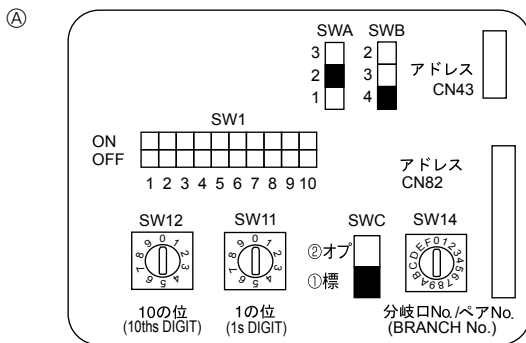

Fig. 4-4
4.6. Switch setting for high ceiling or at the time of changing the number of air outlets (Fig. 4-4)
④	4 direction	2.7 m	3.2 m	4.5 m
③	3 direction	3.0 m	3.6 m	4.5 m
②	2 direction	3.3 m	4.0 m	4.5 m
4.7. Sensing room temperature with the built-in sensor in a remote controller (Fig. 4-4)
4.5. Setting addresses (Fig. 4-4)